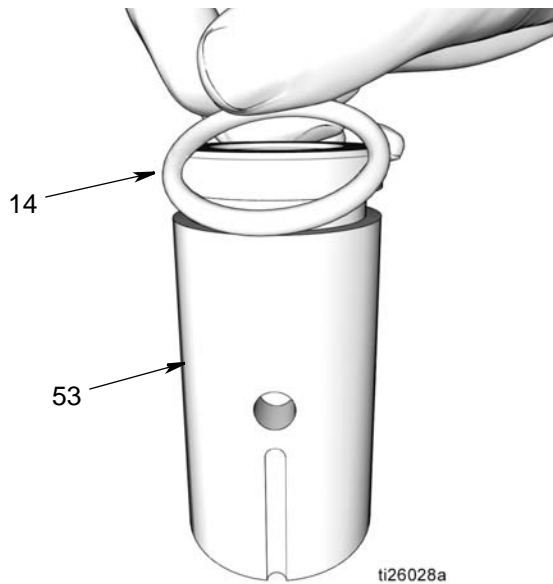

FIG. 41
5. Pump Element Sleeve (53)
- a. Use a clean cloth to wipe down the pump element sleeve (53) and remove any dirt or contaminants. Inspect surface for any scratches or damage.
- b. Apply a thin layer of grease to o-ring (14). Install o-ring around the pump element sleeve (d) (FIG. 41).